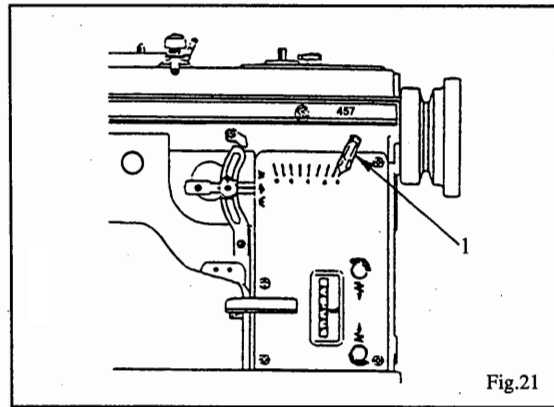

Fig.21
The width of zigzag stitch is regulated with lever (1), Fig.21